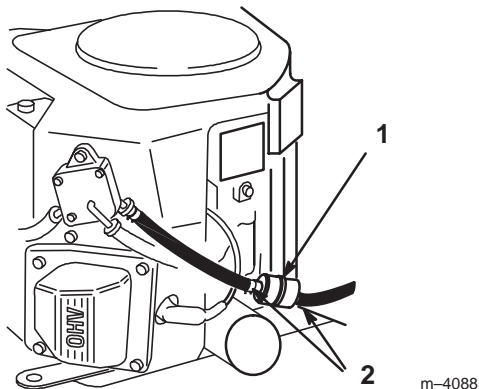

Figure 34
5. Squeeze the ends of the hose clamps together and slide them away from the filter (Fig. 34).